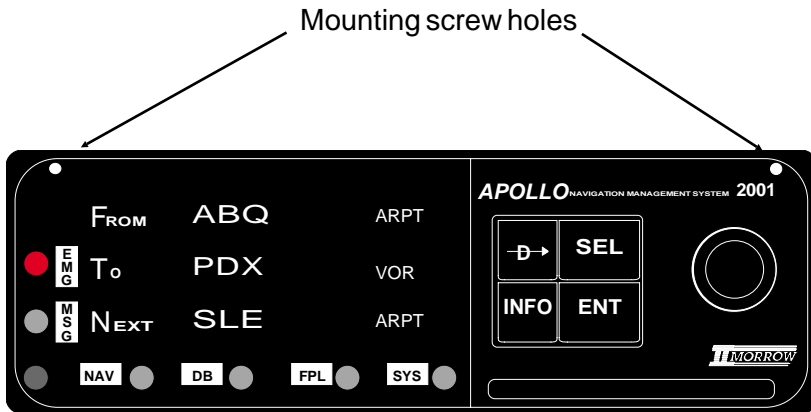

Figure 1 - Apollo NMS Panel Mount
1. Unscrew the two mounting rods under the NMC front panel with the flat blade screwdriver provided (P/N 555-0500). Insert the screwdriver blade into the face plate holes, as shown in Figure 1, to reach the mounting rod screw heads.